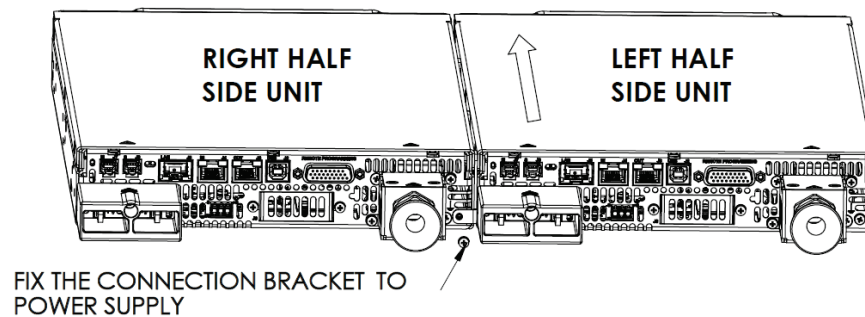

Figure 4-9: Assembly Lock
- Tighten the ground screw previously unscrewed (Sems screw M3X8), back to the rear panel through the hole in the connection bracket as shown in Figure 4-9.